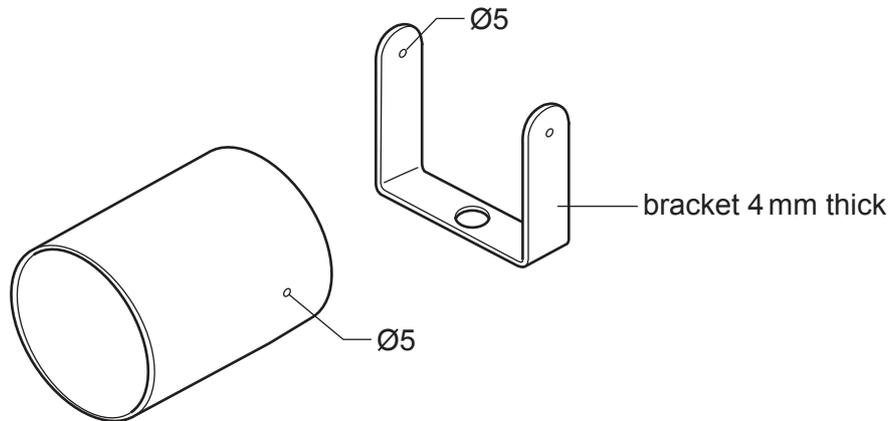

**Fig. 13.4**
- (ii) The lampshade could be made by heating a sheet of acrylic and forming it to the shape of the lampshade. Fig. 13.4 shows a sheet of acrylic that could be formed to produce a lampshade with a diameter of approximately 120 mm.